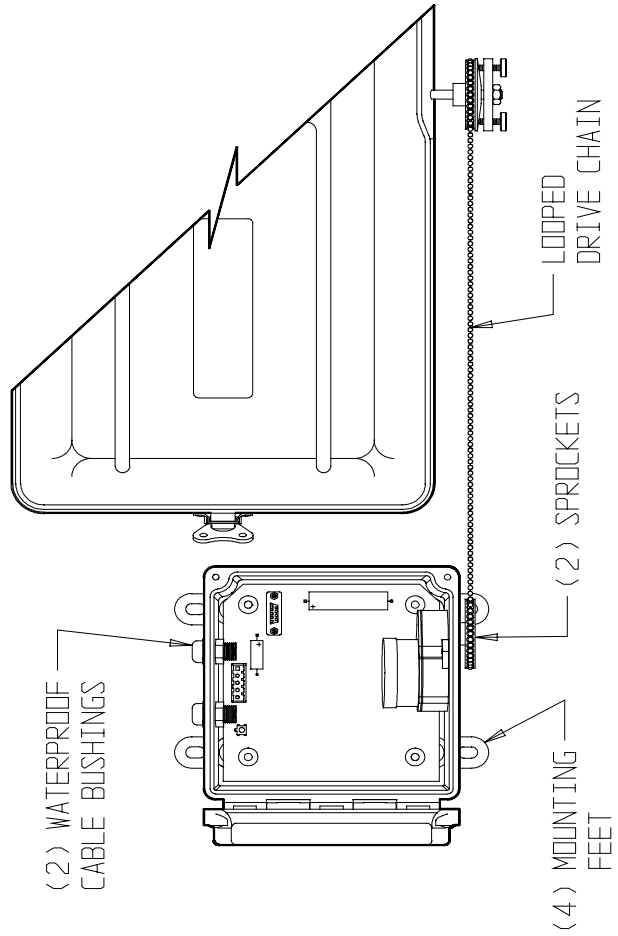

Figure 2 Electro ChartDrive Mounting
1. Unpack the ECD and examine for any shipping damage. If there is any apparent damage, contact the shipping agency for their recommendations. Also contact Stevens for replacement of the unit. Mount the supplied adapter bushing on the motor shaft. Mount the supplied mounting brackets on the bottom of the enclosure as shown in Figure 2.